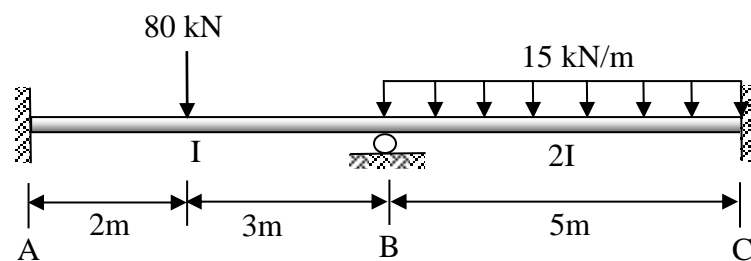

Figure 1(a) / Rajah 1(a)
- (a) A continuous beam is loaded as shown in **Figure 1(a)**. Calculate internal moment at support A, B and C by using the Slope Deflection Method.